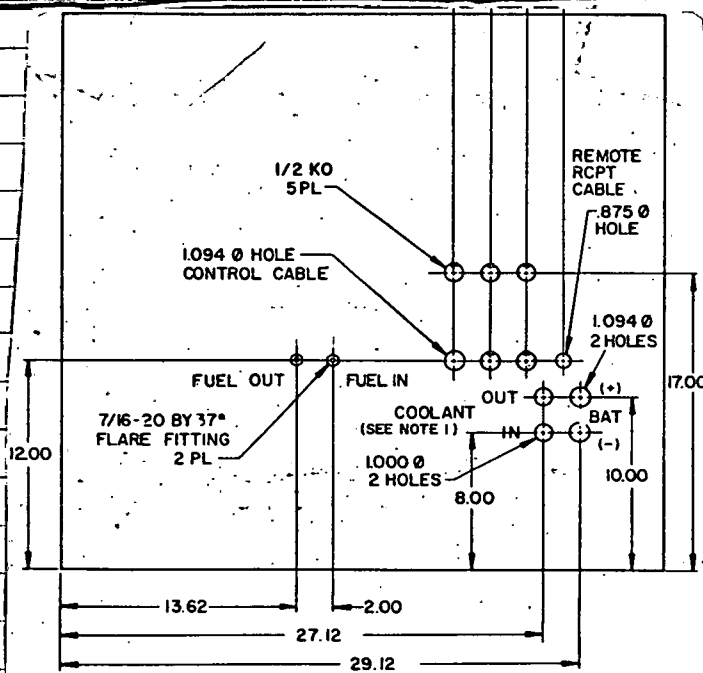

Figure 8 (REAR HOUSING PANEL)
Install threaded end of 9-1/4 inch flexible exhaust tube (supplied in accessory package) into generator set exhaust pipe elbow in upper right rear corner of compartment as shown in Figure 8. Tighten securely.
Step 11 Water-tight 3/4 inch metal strain relief connectors (supplied by customer) should be installed in the two 1-1/2 inch diameter holes in the lower right hand corner of the rear (back) panel at this time. See Figure 8. Battery cables are installed through these connectors later but for ease of installation, the connectors should be installed prior to reassembling the compartment housing.